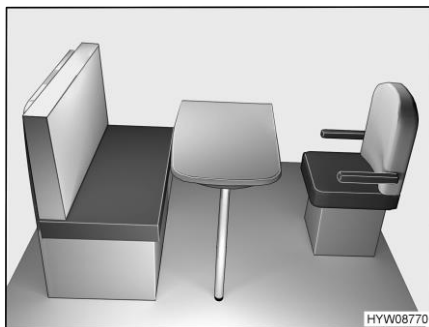

Fig. 72 Prior to conversion
- Turn driver's seat towards the table (Fig. 72).